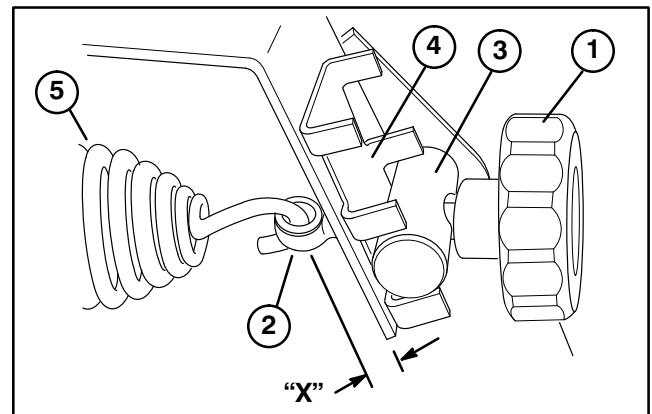

Figure 33
- 3. Loosely secure anchor bolt and spring to upper or lower hole in frame bracket (Fig. 33) with round spacer and counterbalance adjustment knob positioning as follows:
- 4. To tension rear counterbalance spring, rotate counterbalance knob (Fig. 33) until distance between center of anchor bolt opening and inside of frame "X" is as follows: